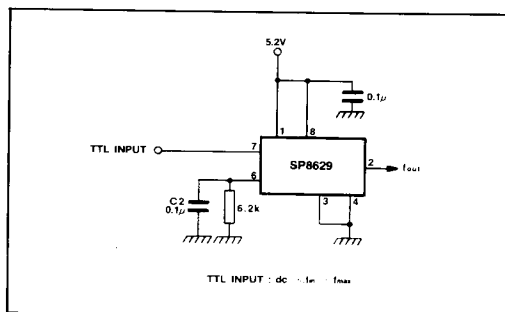

Fig.7 TTL input (DC < f_{in} < f_{max})
4. The input waveform will normally be sinusoidal but below 10MHz correct operation depends on the slow rate of the input signal. A slow rate of $50V/\mu s$ will enable the device to operate down to DC. The device will operate with a TTL input signal as shown in Fig. 7 and is DC coupled to the input.